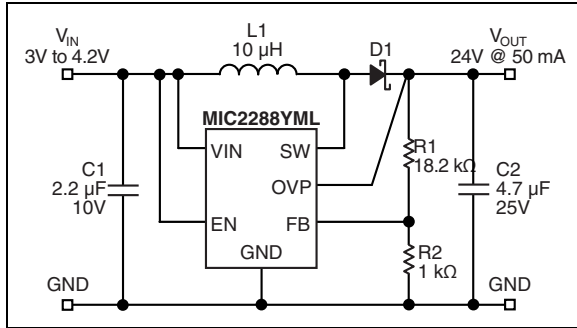

FIGURE 6-5: 3.0V to 4.2V V_{IN} to 24V V_{OUT} @ 50 mA.
- Updated part number C2 (Figure 6-5).